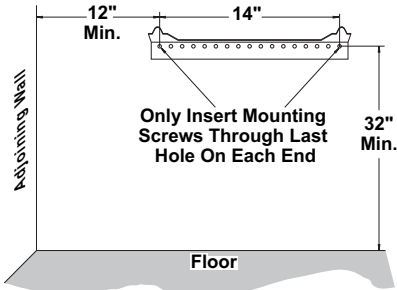

Figure 8 - Mounting Bracket Clearances
⚠ WARNING: Maintain minimum clearances shown in Figure 8, page 10. If you can, provide greater clearances from floor and joining wall.
2. Mark screw locations on wall (see Figure 8).